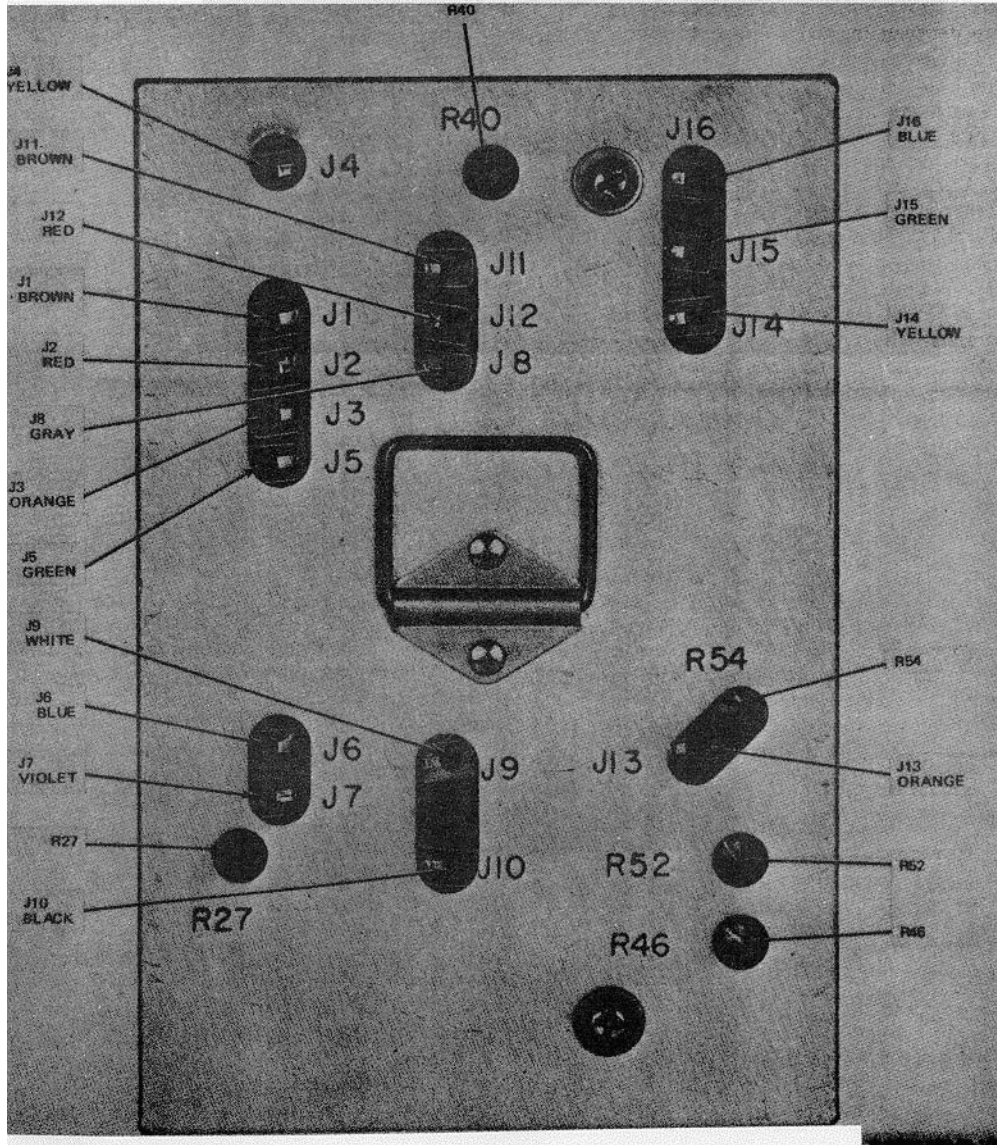

Figure 3-94. Audio Frequency Amplifier AM-3506/PRC-47 (A8A1), Top View, Location of Test Points and Adjustments.
3-22. Receiver Output Adjustments (fig. 3-94, 3-106)
(1) Observe the output meter and adjust A1R54 (fig. 3-94) to obtain a reading of 1000 milliwatts (18 volts in 300 ohms).
(2) Return the POWER-LIGHTS switch to POWER OFF and disconnect the test equipment.
(3) Return the RT-671/PRC-47 to its case using the procedures listed in paragraph 3-11 if no further adjustments are required.
(fig. 3-94, 3-107)
(1) Remove the RT-671/PRC-47 from its case using the procedures listed in paragraph 3-11.
(2) Connect the primary power source to the POWER connector on the front panel of RT-671/PRC-47.
(3) Connect the dc probe of Multimeter ME-26A/V to test jack A1J15 (fig. 3-94).
(1) Observe the multimeter and adjust A1R52 (fig. 3-94) until a further counterclockwise adjustment has no effect on the meter reading, but a clockwise adjustment increases the meter reading.
(2) If step b (1) is unsuccessful, adjust A1R52 to its clockwise stop and then vary the output of the signal generator between 0.1 and 1.6 microvolts. The agc threshold must occur between 0.6 and 1.2 microvolts.
(3) Return POWER-LIGHTS switch to POWER OFF and disconnect the test equipment.
(4) Return the RT-671/PRC-47 to its case using the procedures of paragraph 3-11 if no further adjustments are required.
(fig. 3-94, 3-108)